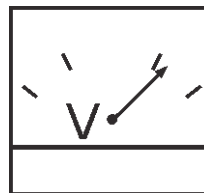

Figure 53. AC Voltmeter
11. The generator's voltage meter (Figure 53) displays the 120 VAC in **VOLTS**. If the voltage is not within the specified frequency tolerance,